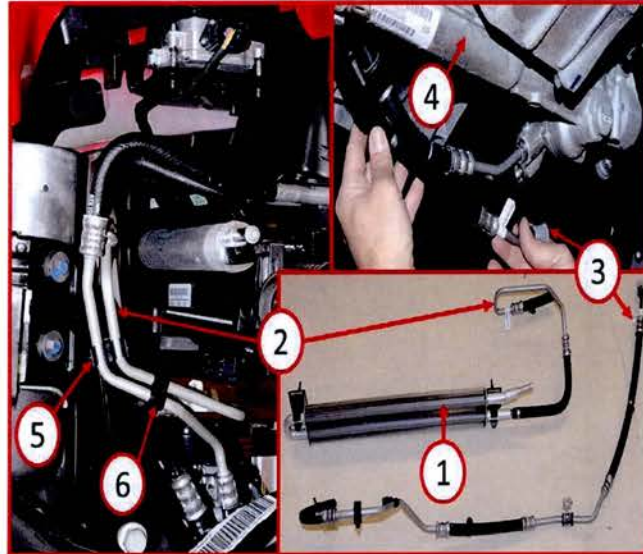

Fig. 7 Install New Return Lines
- 23. Install the steering cooler (1) return hose (2) on the power steering pump reservoir(Fig. 7).
- 24. Install the revised steering gear to cooler return hose (3) starting with the fitting at the steering gear (4). Install the frame mounted retaining clip and connect the return hose to the cooler (Fig. 7).
- 25. Install the line retaining push clip (5) into the hole created in the lower steering pump bracket and connect the holding clip (6) to the cooler to pump return line (2) (Fig. 7).